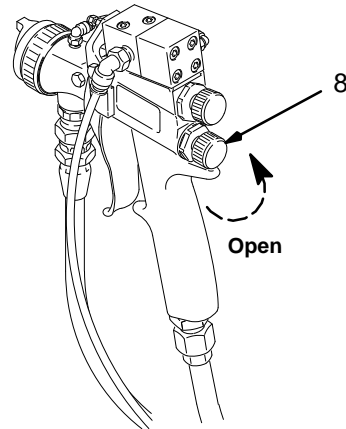

Fig. 12
- A. Close the fluid adjustment valve by turning the knob (8) fully clockwise. Then turn the knob counterclockwise four full turns to open it. See Fig. 12.